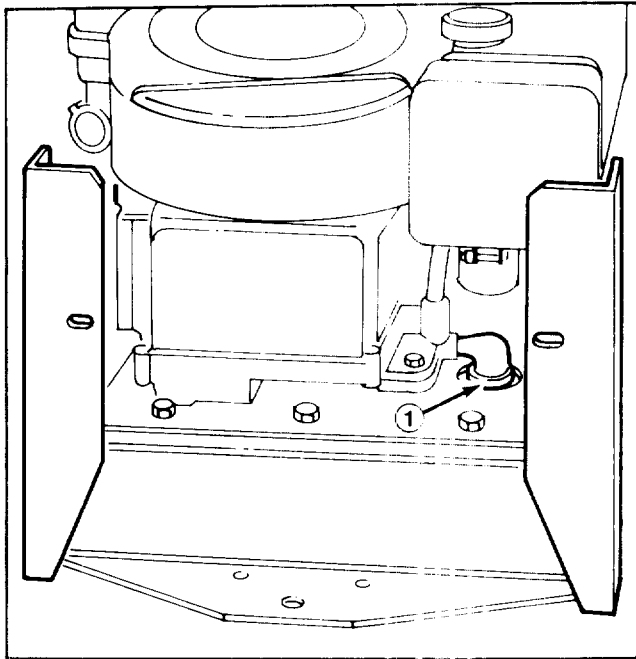

Figure 15
- B. Turn engine off and place drain pan below drain plug (Fig. 15). Support drain pipe with pipe wrench, remove drain plug, and allow all oil to flow into drain pan. Install drain plug after oil stops flowing.